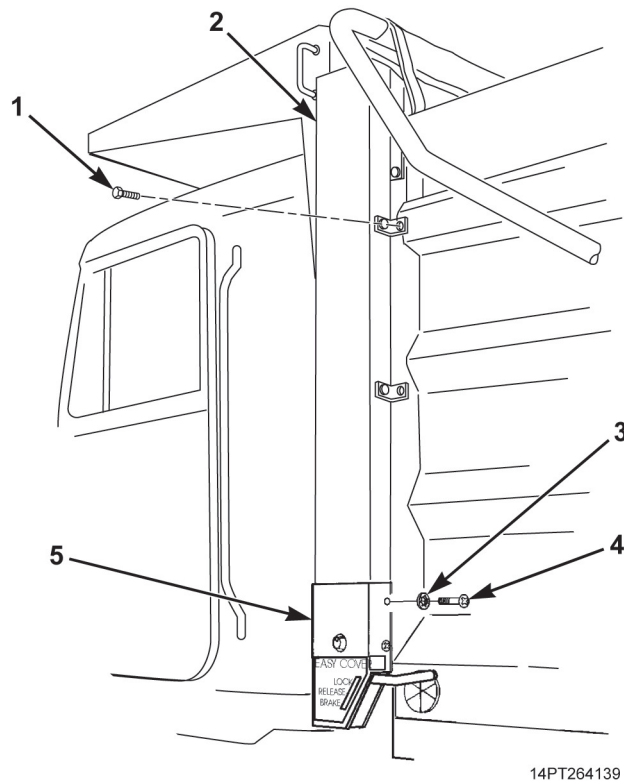

Figure 6. Cover Installation.
7. Install chain cover (Figure 6, Item 2) with four screws (Figure 6, Item 1).
8. Install crank assembly cover (Figure 6, Item 5) with four new lockwashers (Figure 6, Item 3) and screws (Figure 6, Item 4).